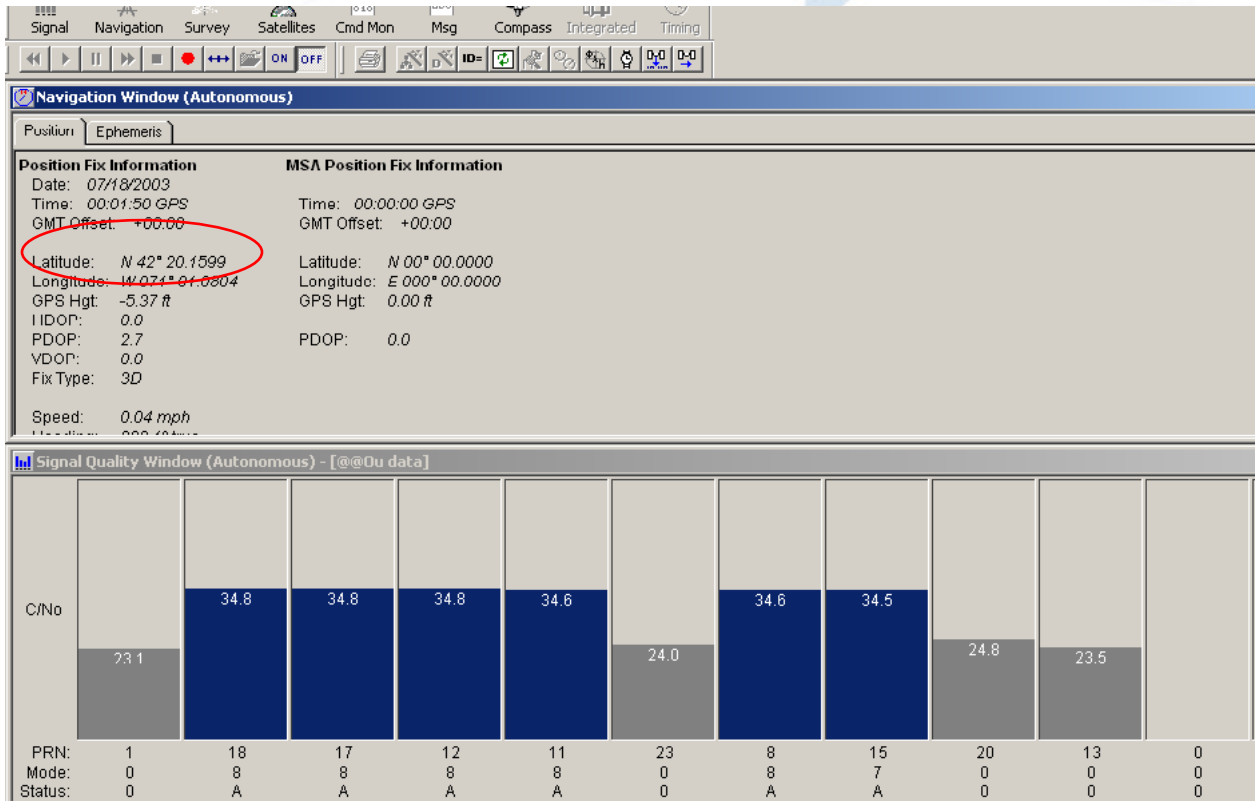

Figure 10 GPS Navigation Window
- For instance: Latitude **N 42deg and 20.16 sec**, Longitude **W071deg and 1.08 sec**. – (see figure 10)
3. An example of “**Signal Quality Window**” also found in figure 10.